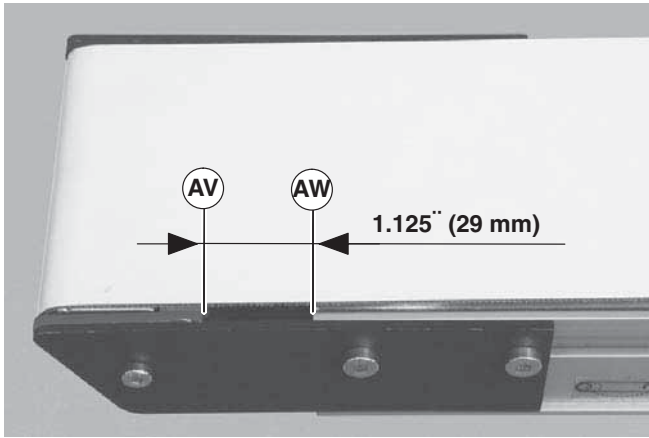

Figure 28
2. Adjust head plate assembly so the edge of the axle support plate (Figure 28, item AV) is separated from the end of the conveyor (AW) by 1.125" (29 mm). Replace belt if proper tensioning can not be obtained within a distance of 1.50" (38 mm). See NOTE.